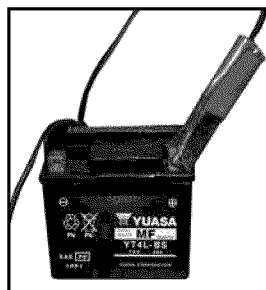

Figure 23
1. Connect the red positive (+) cable to the red positive (+) pole of the battery. (see figure 23)